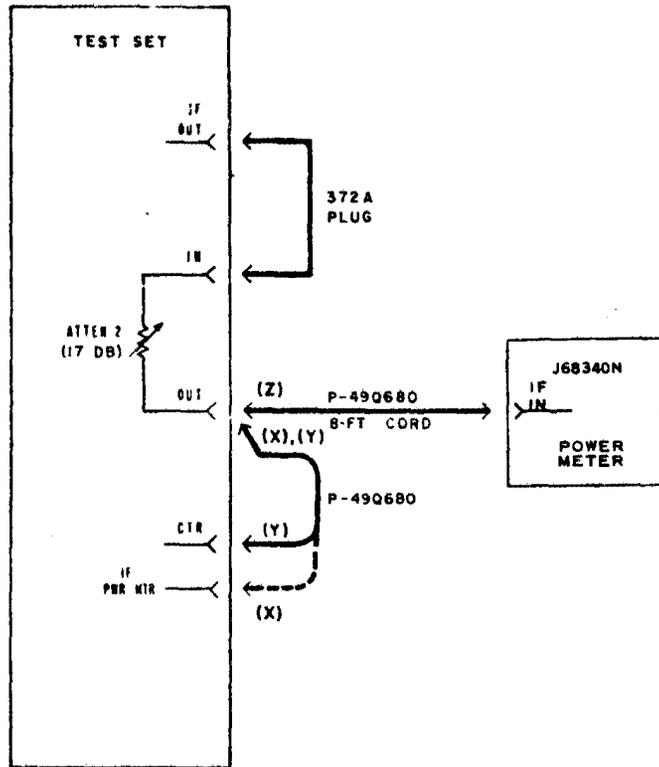

Fig. 1—IF Power Head Calibration
1.03 Figures 1 and 2 attached give detailed calibrating procedures for the IF and RF power heads, respectively.